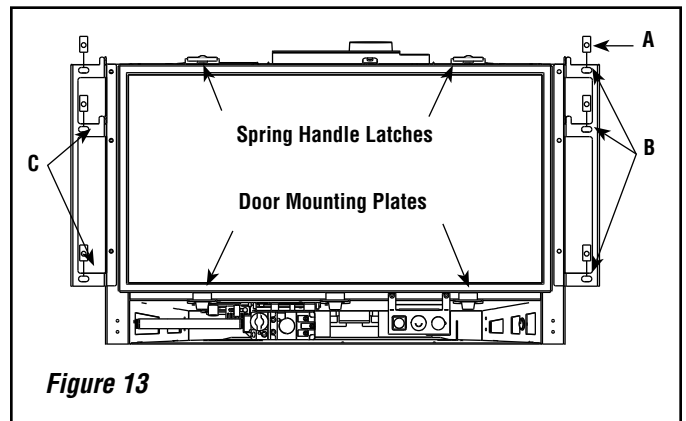

Figure 13
1. Remove the speed nuts (A in **Figure 13**) from the parts bag and install (with the flat surface forward) on the six holes in the surround brackets - three on each side of the insert (B in **Figure 13**). A flat bladed screwdriver may help in installing the nuts.
The faces come with hooked brackets. To install the face, hang the hooked brackets on the surround brackets (See C in **Figure 13**).